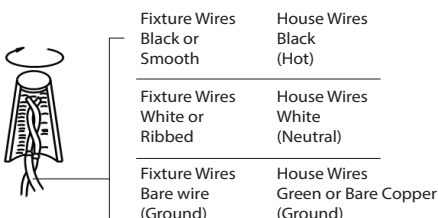

Fig.3 4CCT Switch
3. Remove the mounting screw (B) and rubber gasket (C) from the fixture.
4. The lamp can switch between four color temperatures (27000K-3000K-3500K-4000K), which can be adjusted to your preference with the two switches in the canopy (Fig.3)